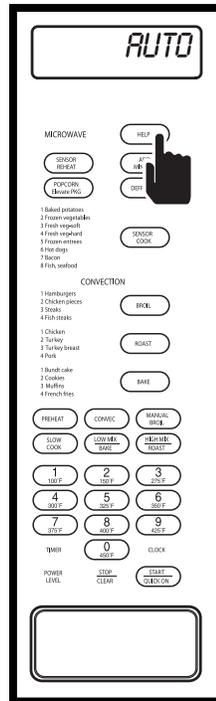

Figure 3-45. Press HELP Key
1. Press the HELP key and five help features will flash on the display, the third one will read "AUTO - START - PRESS 3" (See Figure 3-45).